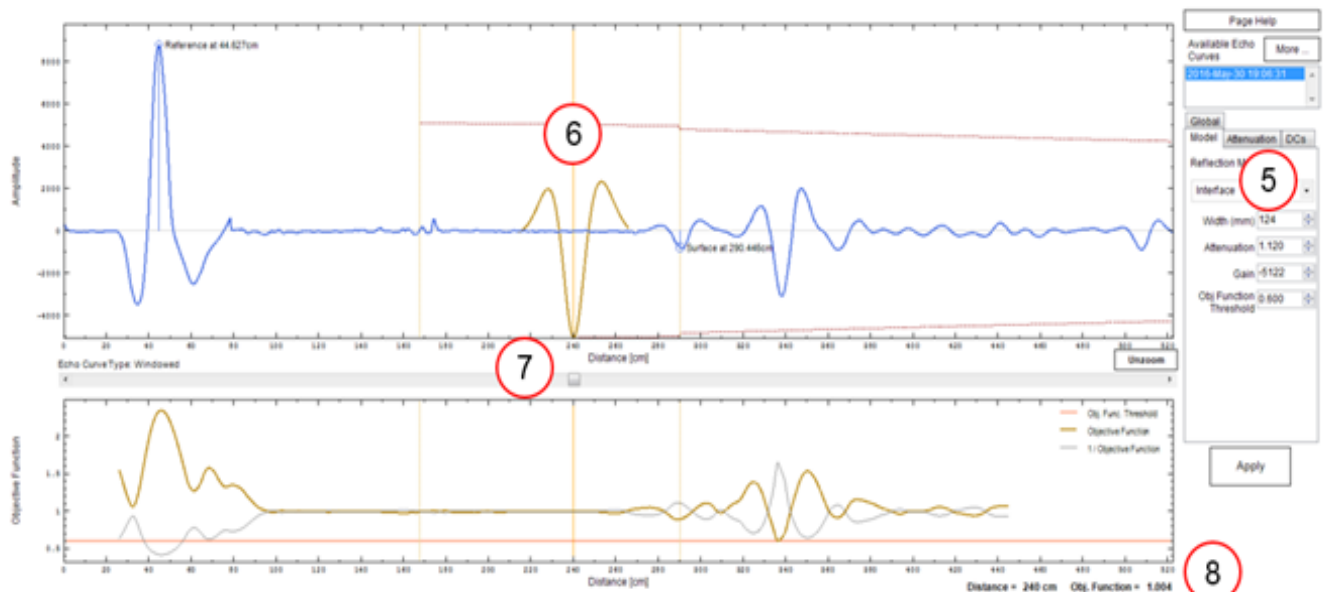

Figure 25: Adjusting the Correlation Algorithm
7. Click on the vertical positioning line of the selected model and drag the model over the relevant part of the curve. The example curve shown in Figure 25 below represents a scenario of a two liquid non-flooded application with oil on top of water. In the example the transmitter has correctly located the surface of the upper oil layer, but has failed to find the interface boundary between the oil and water due to a model mismatch. In this case the Interface model should be selected and dragged to a location to the right of the Surface reflection where the interface is known to be.